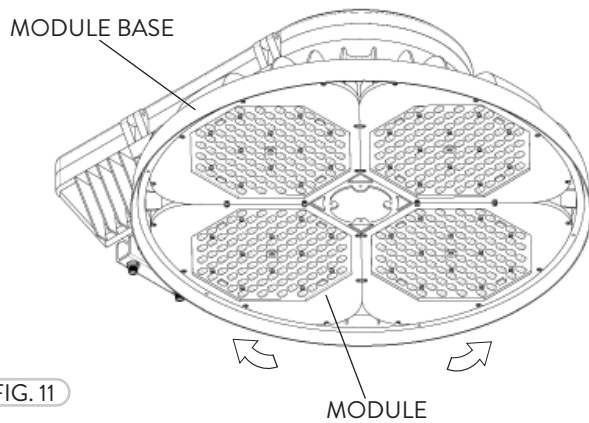

FIG. 11
- 2 The FHMA fixture can now be adjusted by rotating the Module Base (up to 165° left or right) (Fig. 11). When the desired direction is reached tighten the Screws.